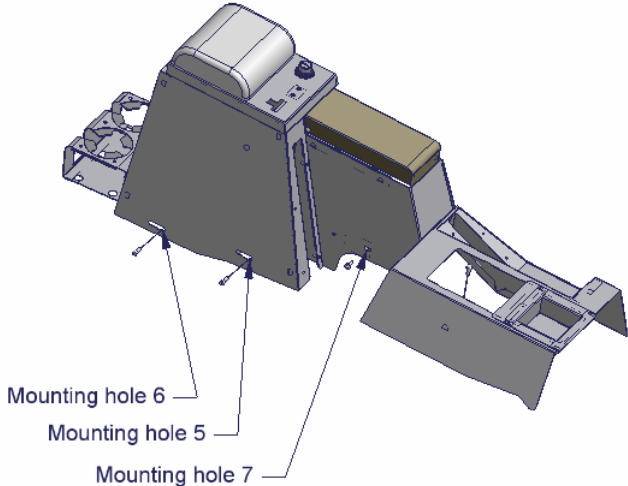

FIGURE 4
12. Before installing the front shift lever console, screw (2) 1/4-20 x 3/4" bolts with washers into the shift lever console, do not tighten them all the way leave about 1/8" gap. These are used as guides. (SEE FIGURE 4)